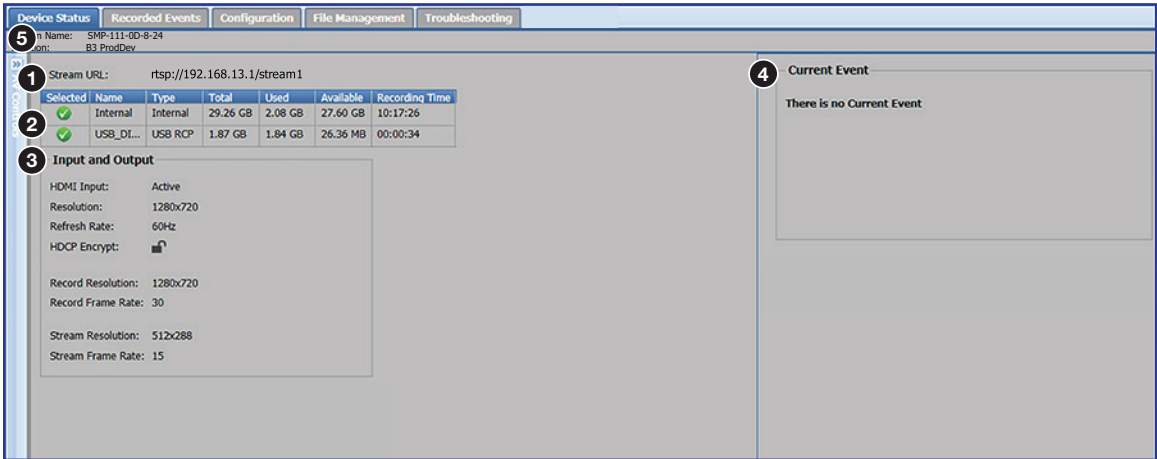

Figure 22. Device Status Page
The **Device Status** page (see figure 22) displays read only information about the presentation currently in progress. This page contains five panels:
The storage information table (see figure 22, ❶, also available in File Management on page 55) displays the names of the available connected storage devices, their locations (internal, USB front panel port, USB rear panel port, USB RCP), total capacity, and amount of used and available storage space. It also provides an estimate of remaining recording time for each drive and indicates (with a check mark) which drive is selected as the only or primary recording location. If the SMP is set for secondary storage mode, a second check mark symbol indicates the drive selected as the secondary location.